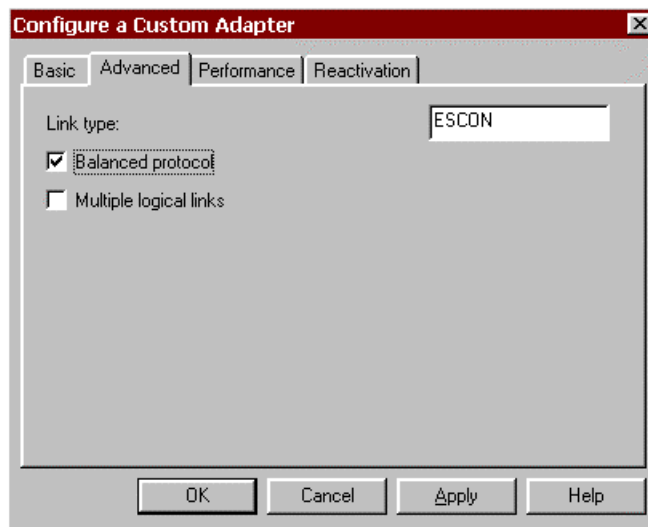

Figure 11-5. Completed Configure a Custom Adapter Advanced Screen
3. Once all fields are defined, continue by clicking the **Advanced** tab (Figure 11-5).